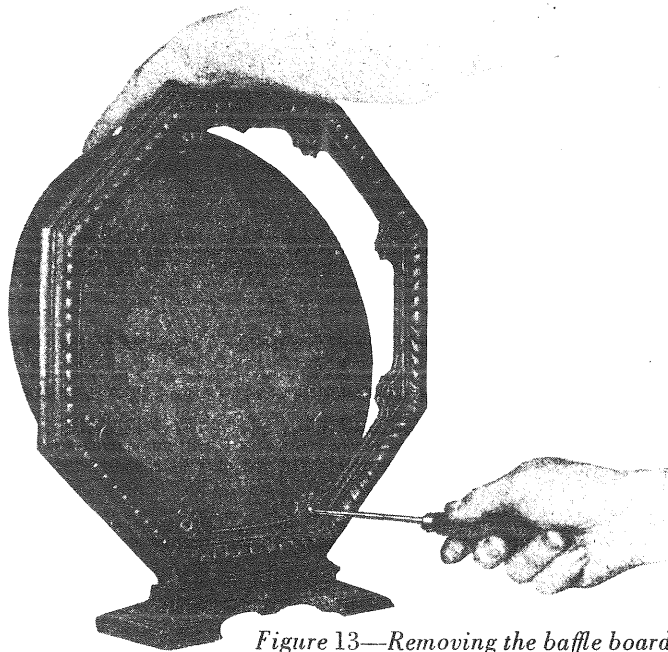

Figure 13—Removing the baffle board
- (a) Remove the mechanism by removing the six machine screws that hold it to the baffle board and remove the baffle board by removing the eight wood screws that hold it to the moulded frame (See Figure 13).